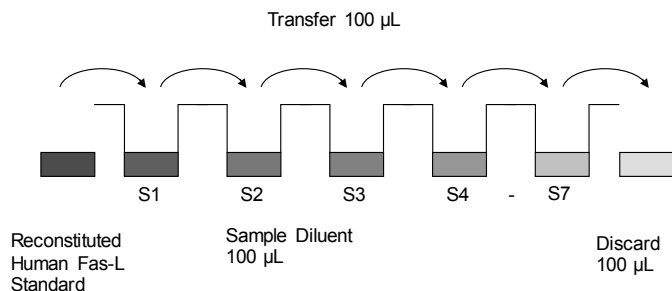

Fig. 7 Dilute standards - microwell plate
- Standard dilution on the microwell plate (Alternatively the standard dilution can be prepared in tubes - see "External standard dilution" on page 3): Add 100 μL of Sample Diluent in duplicate to all standard wells. Pipette 100 μL of prepared standard (see Preparation of Standard "Human Fas-L standard" on page 3, concentration = 20.00 ng/mL) in duplicate into well A1 and A2 (see Table 1). Mix the contents of wells A1 and A2 by repeated aspiration and ejection (concentration of standard 1, S1 = 10.00 ng/mL), and transfer 100 μL to wells B1 and B2, respectively (see Figure 7). Take care not to scratch the inner surface of the microwells. Continue this procedure 5 times, creating two rows of human Fas-L standard dilutions ranging from 10.00 to 0.16 ng/mL. Discard 100 μL of the contents from the last microwells (G1, G2) used.